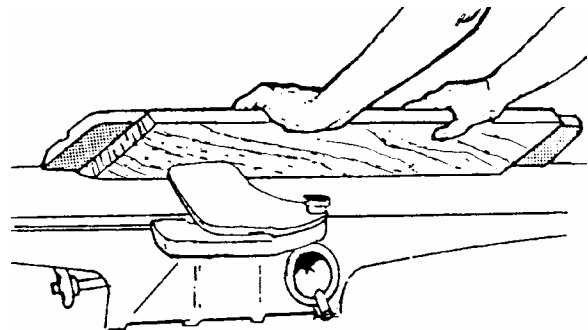

Figure 41
- ❑ Although the fence may be tilted in or out, it is recommended that the fence be tilted *in* toward the operator (as shown in Figure 41) for safety reasons.
5. Feed the stock through the cutterhead, making sure the face of the stock is completely flat against the fence and the edge is making solid contact on the infeed and outfeed tables (Figure 41).